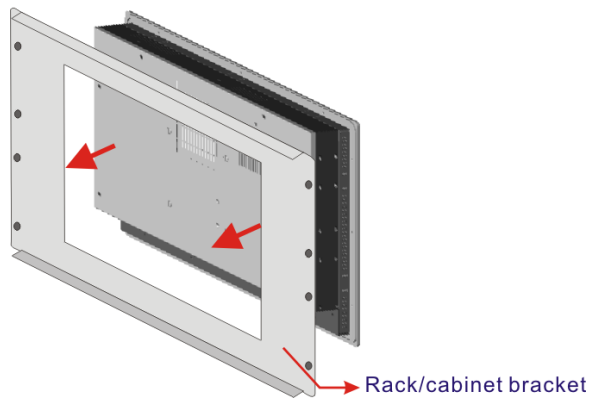

Figure 3-30: The Rack/Cabinet Bracket
Step 1: Slide the rear chassis of the 2901230 flat panel PC through the rack/cabinet bracket until the aluminum frame is flush against the front of the bracket (**Figure 3-30**).